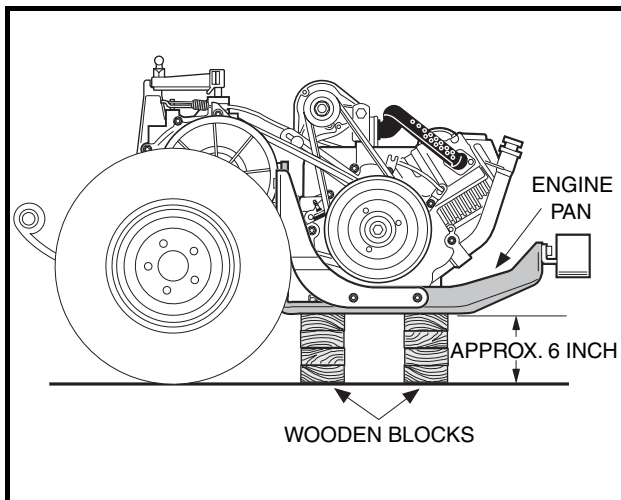

Figure 16-28 Position Powertrain
15. Place blocks under the engine pan so they will completely support the engine and keep it **level to the floor (Figure 16-28, Page 16-13)**. See following **NOTE**.